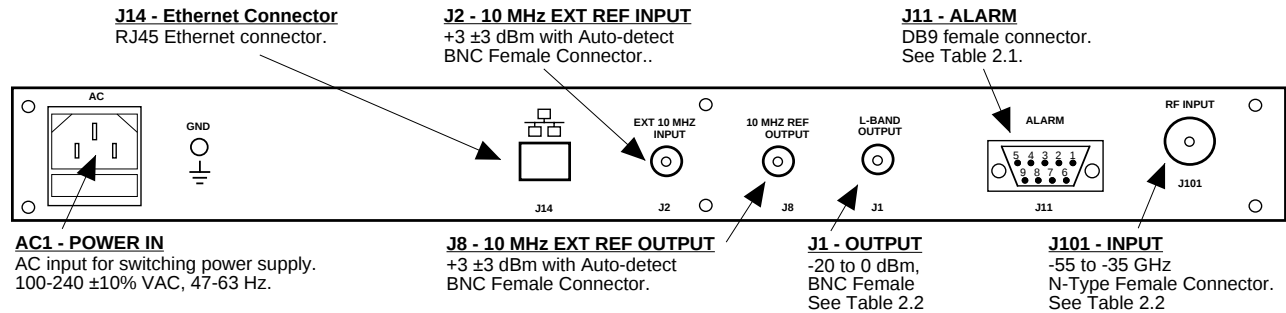

FIGURE 2.2 3116-76-1200 Rear Panel I/Os
Figure 2.2 shows the input and output connectors on the rear panel.
1. Connect a -55 dBm to -35 dBm signal to RF IN, J101 (Figure 2.2).